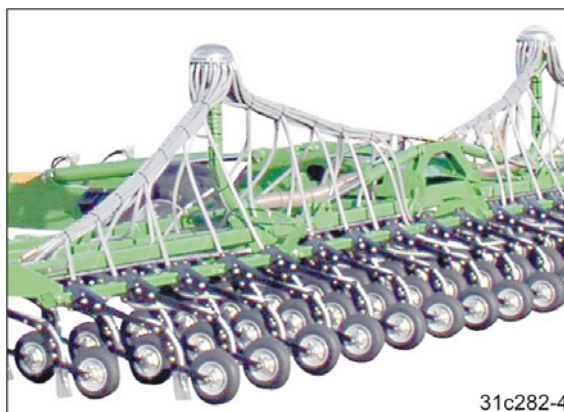

Fig. 203
5. Fold the rear frame (Fig. 203) to the working position.